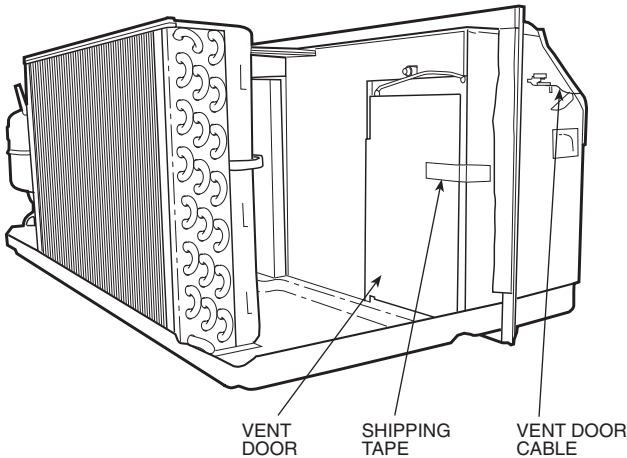

FIGURE 7 — LOCATION OF SHIPPING TAPE ON VENT DOOR
2. Remove shipping tape from vent door. See Figure 7.